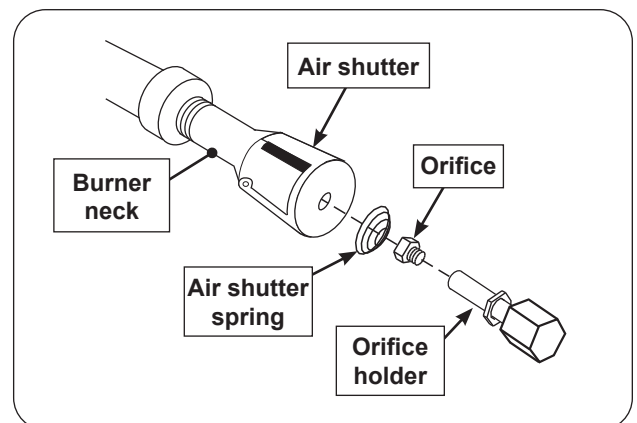

Fig. 40-3 Burner removal diagram
4. To re-install, position the air shutter spring and air shutter over the orifice holder fitting, between the burner and the heat shield, in the order and position shown in Fig. 40-3. Do for both burner necks.